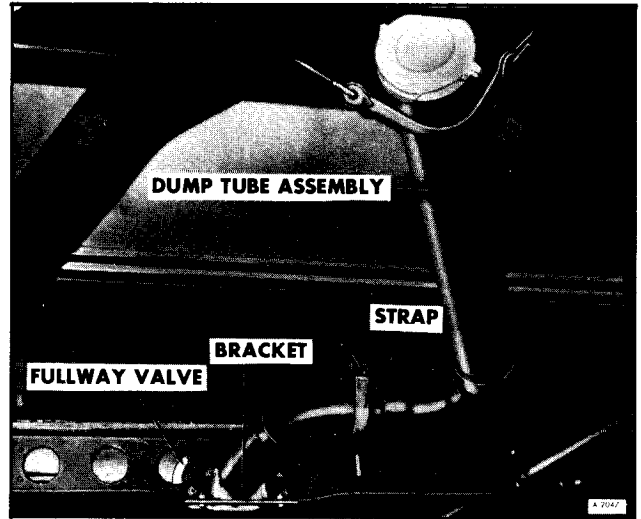

Figure 4—Dump Tube and Valve Assembly
2. On vehicles equipped with a rigid dump tube assembly remove the four (4) screws securing valve to the tank. Remove cotter pin from control rod, then remove the bracket and strap as shown in Figure 4. Remove the fullway valve and tube assembly.
3. On vehicles equipped with a flexible hose at the holding tank, remove the hose from the valve by loosening the hose clamp and sliding the hose off the valve. Remove the cotter pin from the control rod. Remove the four (4) screws securing the valve to the tank. Remove the valve.
a. Position valve at holding tank and assemble enough to loosely install the strap (figure 4). Tighten fullway valve to tank screws.
a. Position valve on holding tank and secure with four (4) screws.